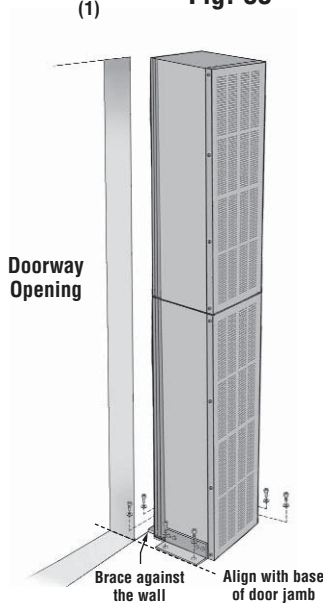

Fig. 34
1. Temporarily place the air curtain into position. The back brace should be against the wall and the edge of the side brace should align with the door jamb. (See Fig. 34) Remove the unit. If using lag screws, pre-drill the mounting holes. If using lag screws with anchors, drill the holes and place the anchors. Reposition the unit and secure it with lag screws.